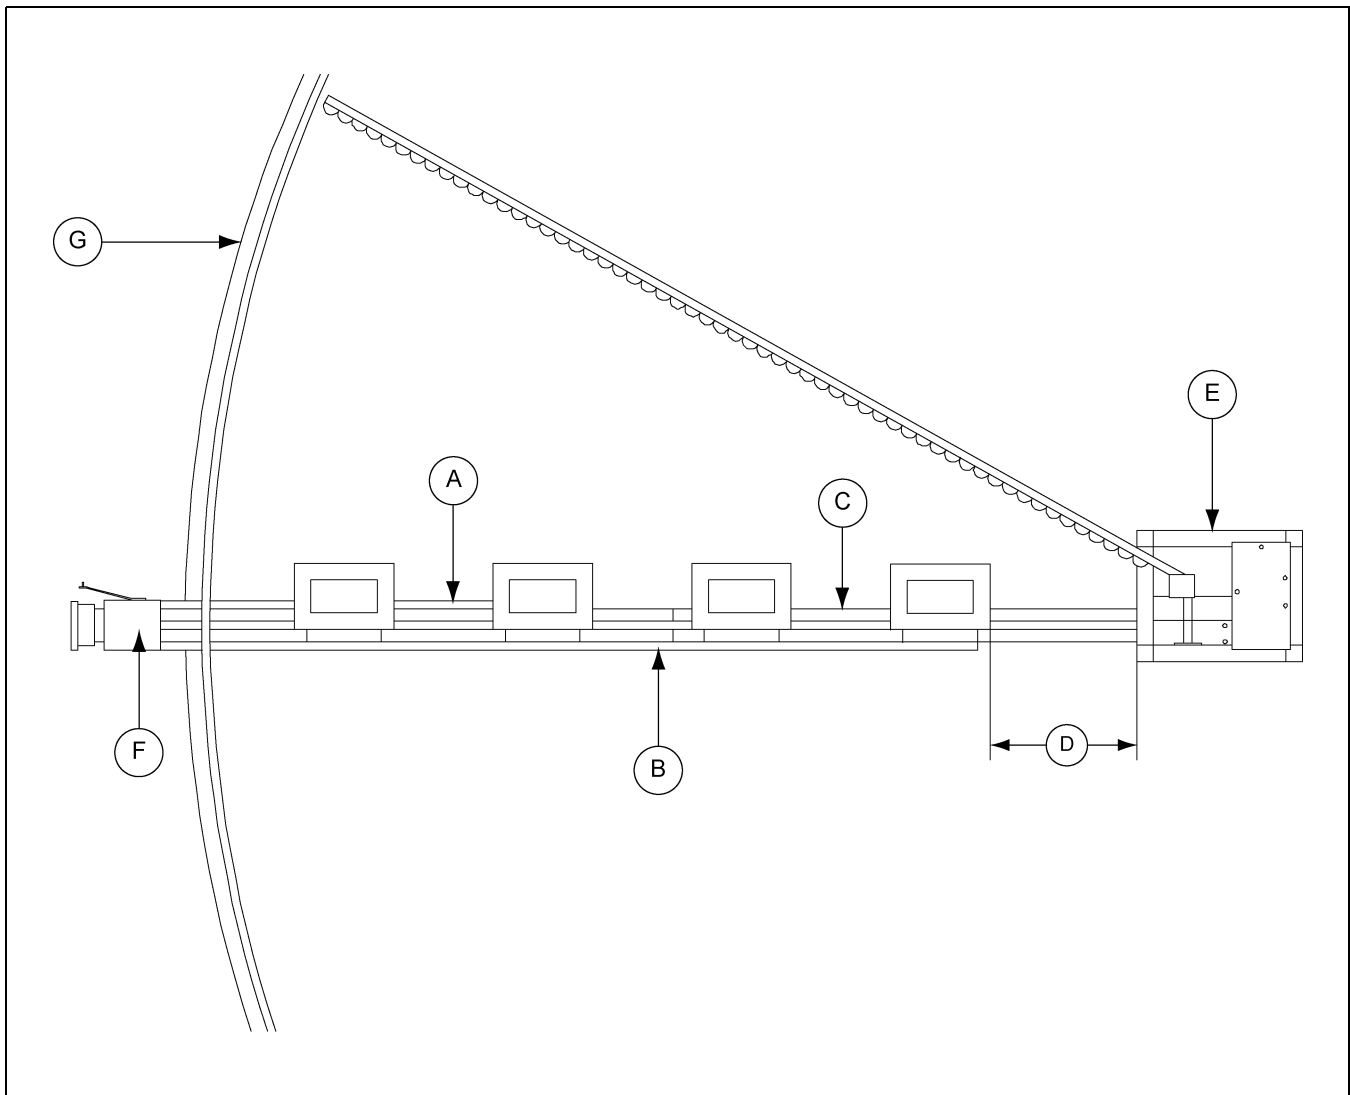

Figure 3B
1. Use the following illustration (*Figure 3B*) and the chart *on Page 14* to determine the necessary pipe lengths.
The labels "A", "B", "C" and "D" correlate with the same labels in Figure 3B on Page 13.